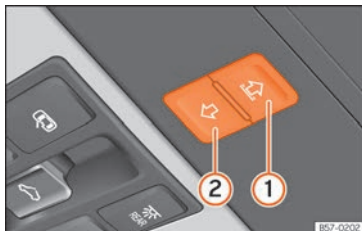

Fig. 87 On the interior roof lining: sunshade blind buttons.
Buttons **»» Fig. 87 1** and **2** have two levels. The first level opens or closes the sun blind fully or partially.
- Sun blind:* within approximately 5 seconds of activating the roll-back function, press and hold button » Fig. 87 (2) until the blind is fully closed.